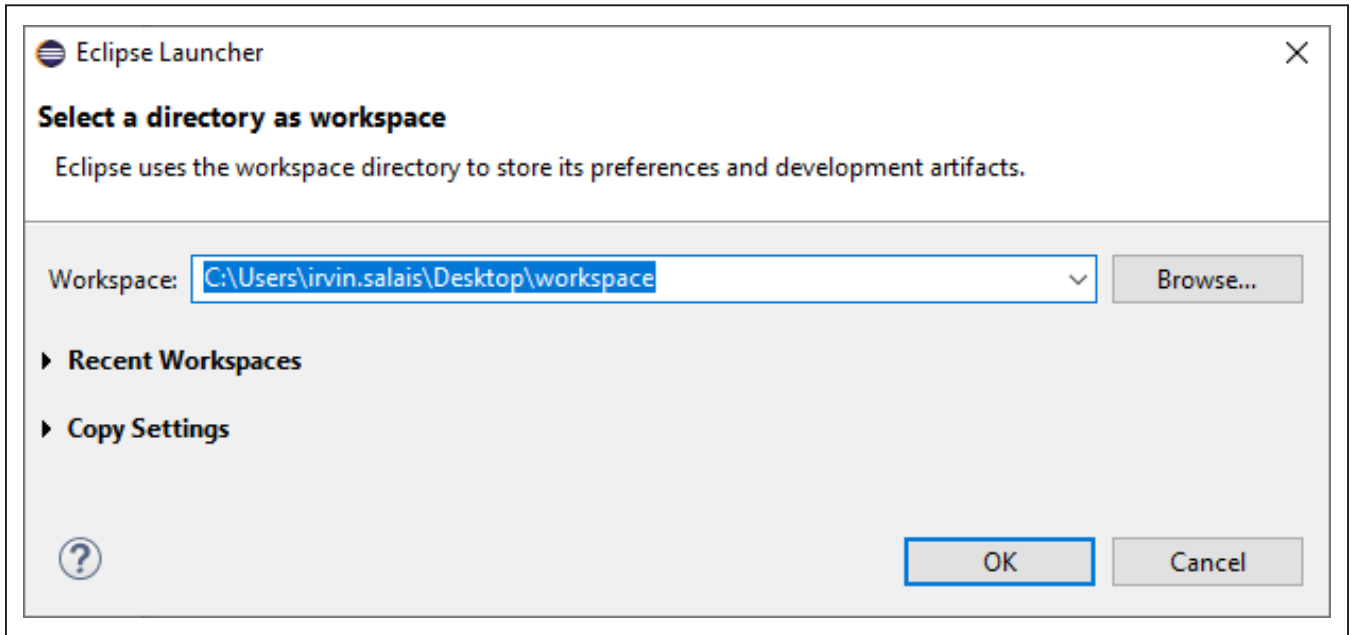

Figure 5. Eclipse workspace creation.
5) Create a workspace in a desired location as shown in Figure 5.